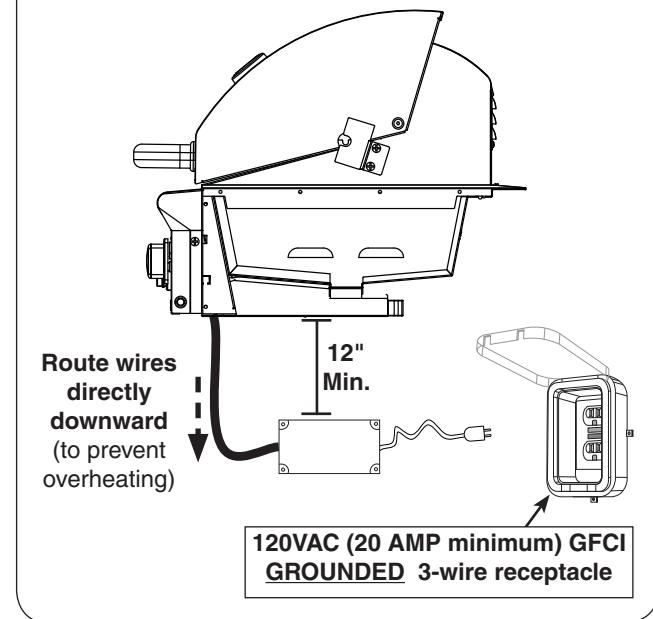

Fig. 23-1 Electrical installation
1. It MUST be located at least 12 inches below the bottom of the grill (see Fig. 23-1).
2. The wire extension that exits from the control panel MUST be routed directly downward. This will prevent overheating. **DO NOT** route the wire extension below the grill (see Fig. 23-1).
3. Mount the power supply box to the inside of the enclosure using appropriate hardware for your enclosure (see Fig. 23-1).
4. Connect the cord coming from the power supply to a **120VAC (15 AMP minimum) GFCI GROUNDED 3-wire receptacle** (see Fig. 23-1). The GFCI receptacle must be a WEATHER-PROOF IN-USE COVERED RECEPTACLE.